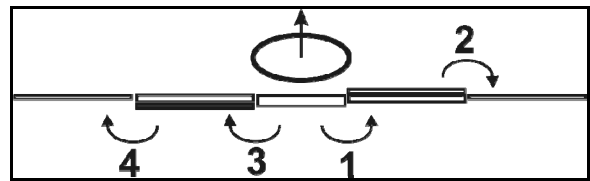

Fig. 74
Observe the sequence specified in Fig. 74 for folding the boom out. To fold in, use the reverse sequence.
2. Fold out the right-hand boom (Fig. 74/1,2).
3. Fold out the left-hand boom (Fig. 74/3,4).